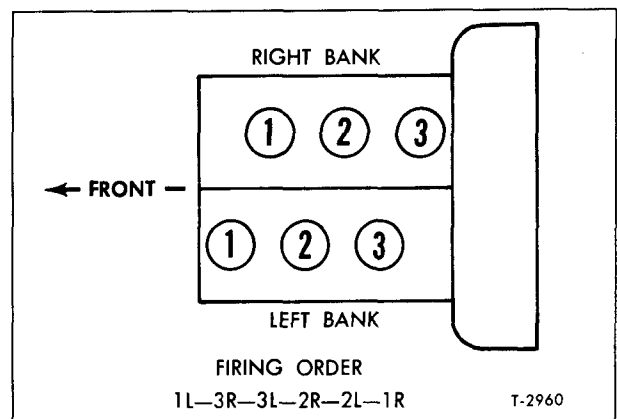
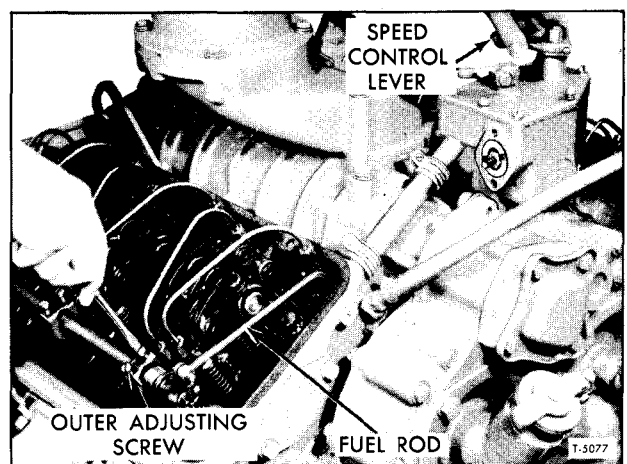

Figure 2—6V-53 Cylinder Numbering and Firing Order
Figure 6—Positioning the Injector Rack Control Lever
All valve clearances can be adjusted during one full revolution of the crankshaft. Cylinder numbers are identified in figure 2.
2. Loosen idle speed adjusting screw lock nut. Start engine and adjust idle screw (fig. 6) to obtain 15 rpm below desired idle speed. Tighten lock nut when properly adjusted. It is necessary to have proper low speed spring tension in order to set governor gap properly (see "Tune-Up Chart" later).
NOTE: The letters "R" or "L" indicate the injector location in the right or left cylinder bank, viewed from the rear of the engine (fig. 2). Cylinders are numbered starting at the front of the engine on each cylinder bank. Adjust the No. 3L injector rack control lever first to establish a guide for adjusting the remaining injector rack control levers.
e. Move the speed control lever to the maximum speed position; hold it in that position with light finger pressure. Turn the inner adjusting screw on rear No. 3L (fig. 2) injector rack control down as shown in figure 6, until a slight movement of the control tube lever is observed or a step-up in effort to turn the screwdriver is noted. This will place rear No. 3L (fig. 2) injector in the full-fuel position. Turn down the outer adjusting screw until it bottoms lightly on the injector control tube. Then alternately tighten both the inner and outer adjusting screws.
g. Position No. 3R (fig. 2) injector rack control lever as previously outlined in Step 4e for the No. 3L injector rack control lever.
h. Repeat the check on the 3L and 3R (fig. 2) injector rack control lever as outlined in Step 4f. Check for and eliminate any deflection which may occur at the bend in the fuel rod where it enters the cylinder head.
i. Hold the speed control lever to the maximum speed or manually hold the No. 3L (fig. 2) injector rack in the full-fuel position with the lever on the end of the injector control tube, and turn the inner adjusting screw of the No. 2L (fig. 2) injector rack control lever down until the injector rack of the No. 2L (fig. 2) injector has moved into the full-fuel position. Turn the outer adjusting screw down until it bottoms lightly on the injector control tube. Then alternately tighten both the inner and outer adjusting screws.
k. Position the No. 1L (fig. 2) injector rack control lever as outlined in Steps i and j.